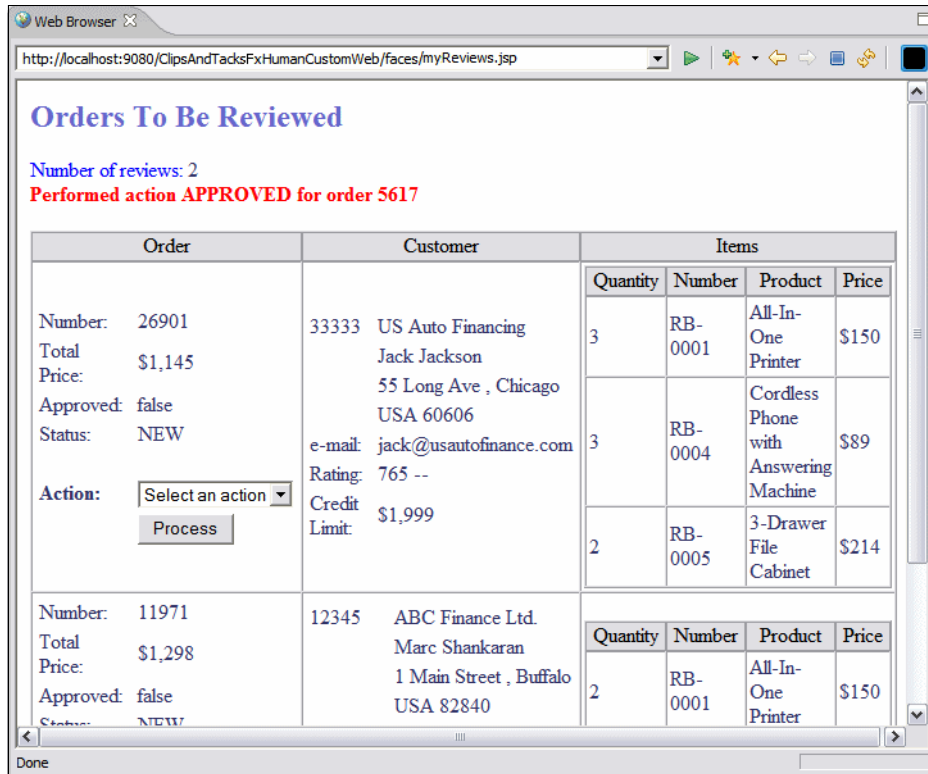

Figure 10-75 Human task application: Orders for review (2)
- ▶ The page is redisplayed with the message and the order disappears for approve and decline actions (Figure 10-75).